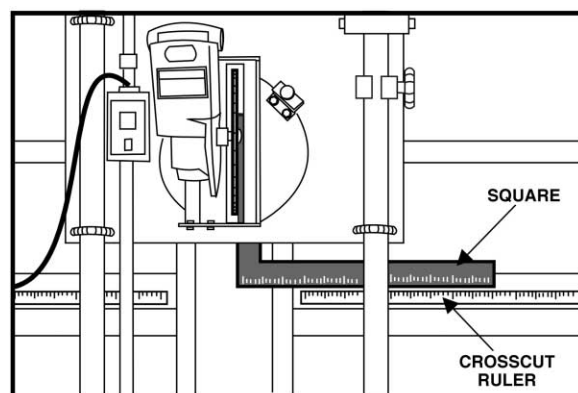

Figure 16
- Using a square that measures at least 14" on one side, line up one edge of the square with the tips of the saw blade, and the other edge with the crosscut ruler. See Figure 16.